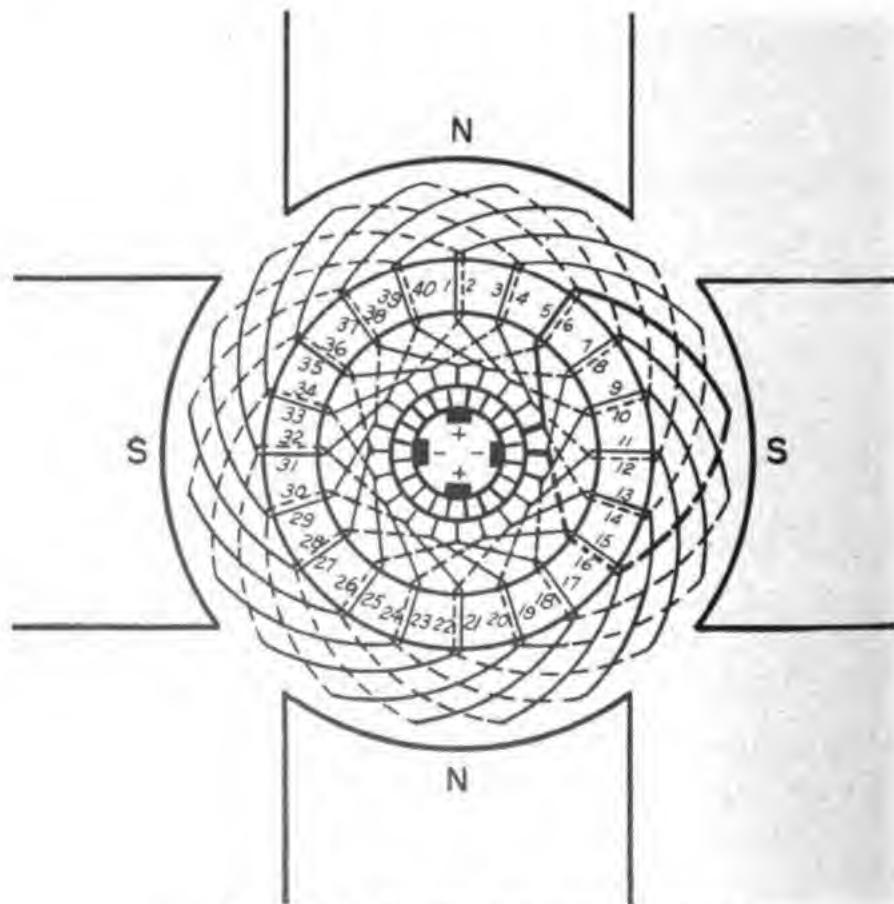
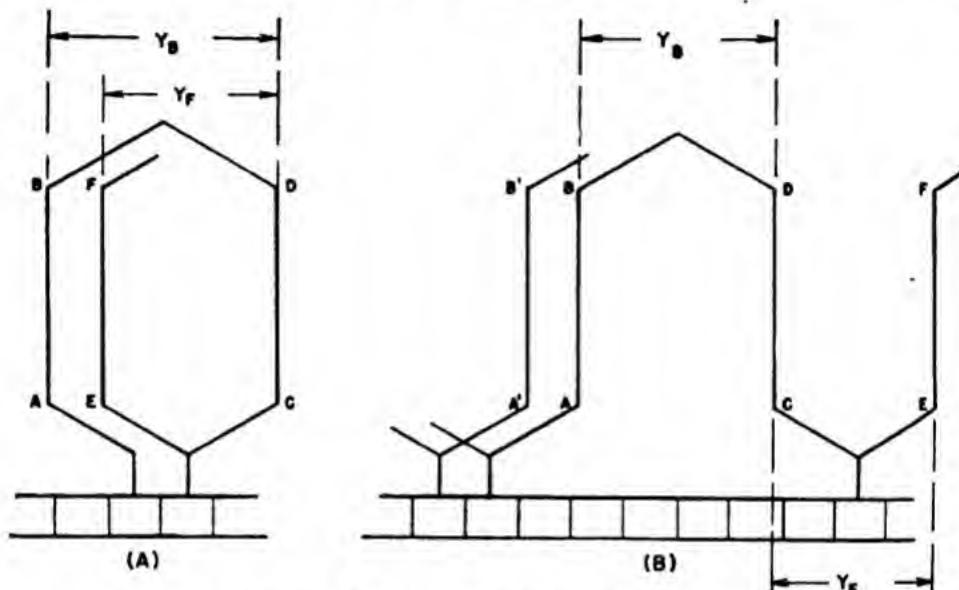

Figure 91.—4-pole, lap-wound armature.
Figure 93.—Lap and wave windings.
6. Draw the wiring diagram—(See figures 91 and 92).
In the lap-wound armature, in figures 91 and 92, you connected a coil side under one pole directly to a coil side occupying a corresponding position under the next pole. Then you connected this second coil side back to a coil side under the original pole, but in a different slot. It would not make any difference in the direction and magnitude of the induced emf in the winding if the connection, instead of returning to the original pole, advanced to the next pole.
In figure 93, you see the difference between lap and wave-wound armatures. In figure 93 (A) you have a LAP-WOUND ARMATURE similar to the one used in the preceding problem and shown in figures 91 and 92. In figure 93 (B) you have a WAVE-WOUND ARMATURE. The windings pass all the north and south poles